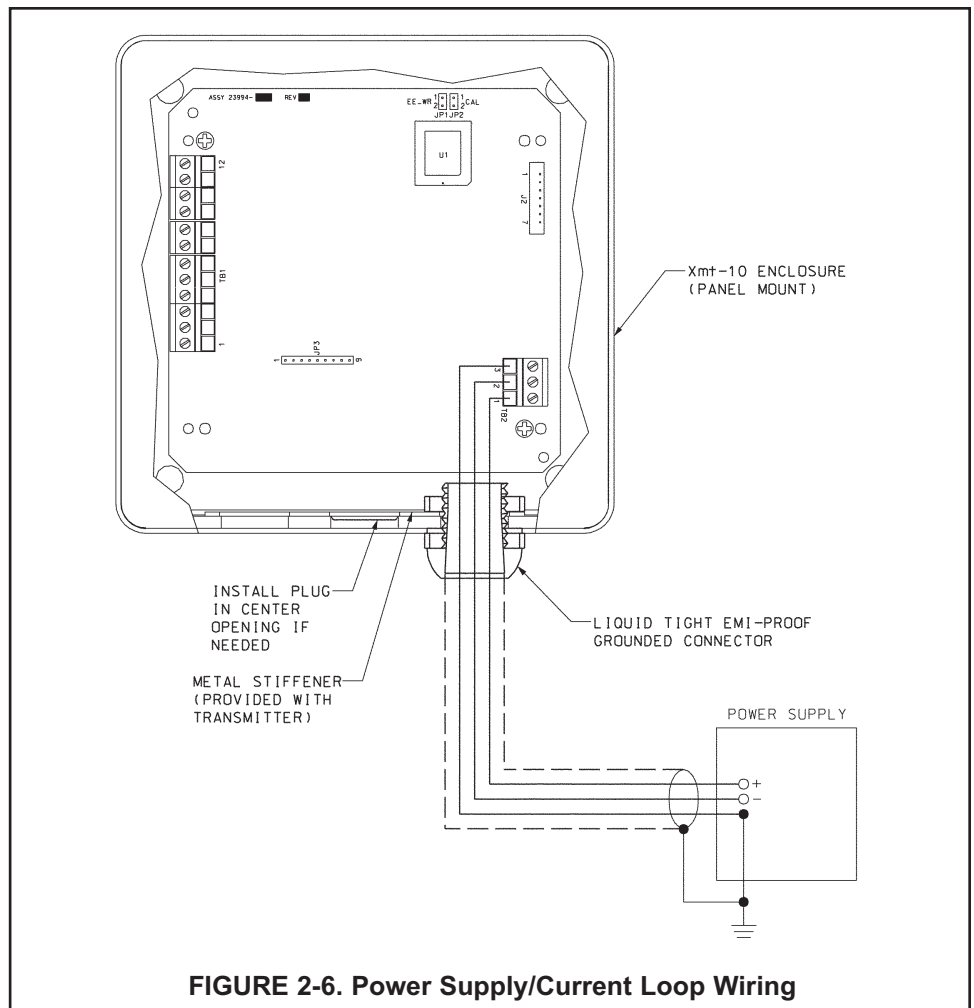

FIGURE 2-6. Power Supply/Current Loop Wiring
Refer to Figures 2-6, 2-7, and 2-8.
3. Use the metal backing plate (see Figure 2-6) when attaching the gland to transmitter enclosure.